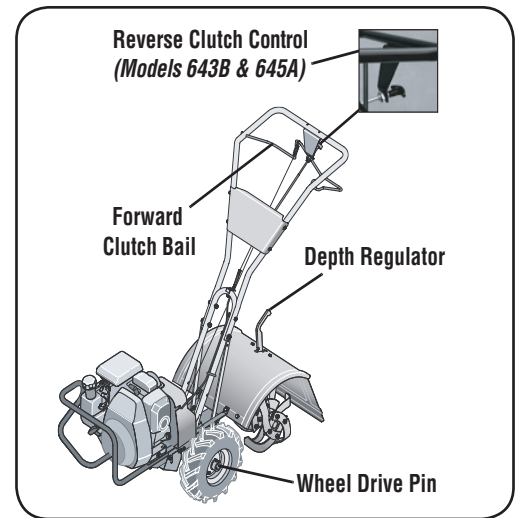

Figure 4-1: Tiller features and controls. See separate Engine Owner's Manual to identify engine controls.
- a. Pull Forward Clutch Bail (Fig. 4-1) up against handlebar. Release bail to stop forward motion of wheels and tines.